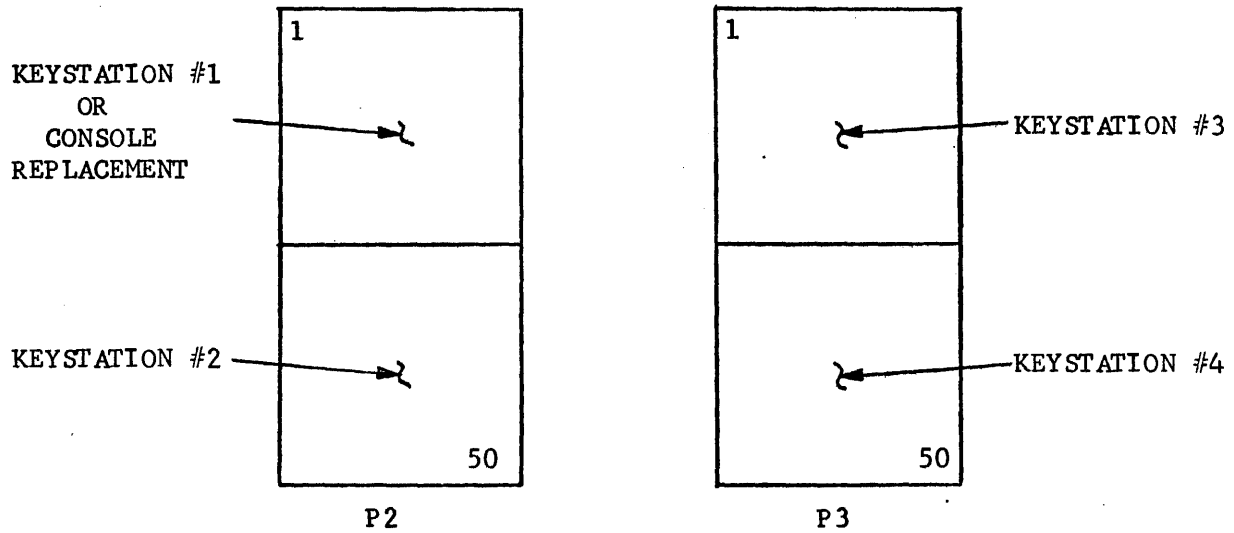

Figure 1. Adapter Cable Connector/Keystation Assignments
- (g) To connect the keystations (1 to 4 allowed) to the adapter cable, see Figure 1.